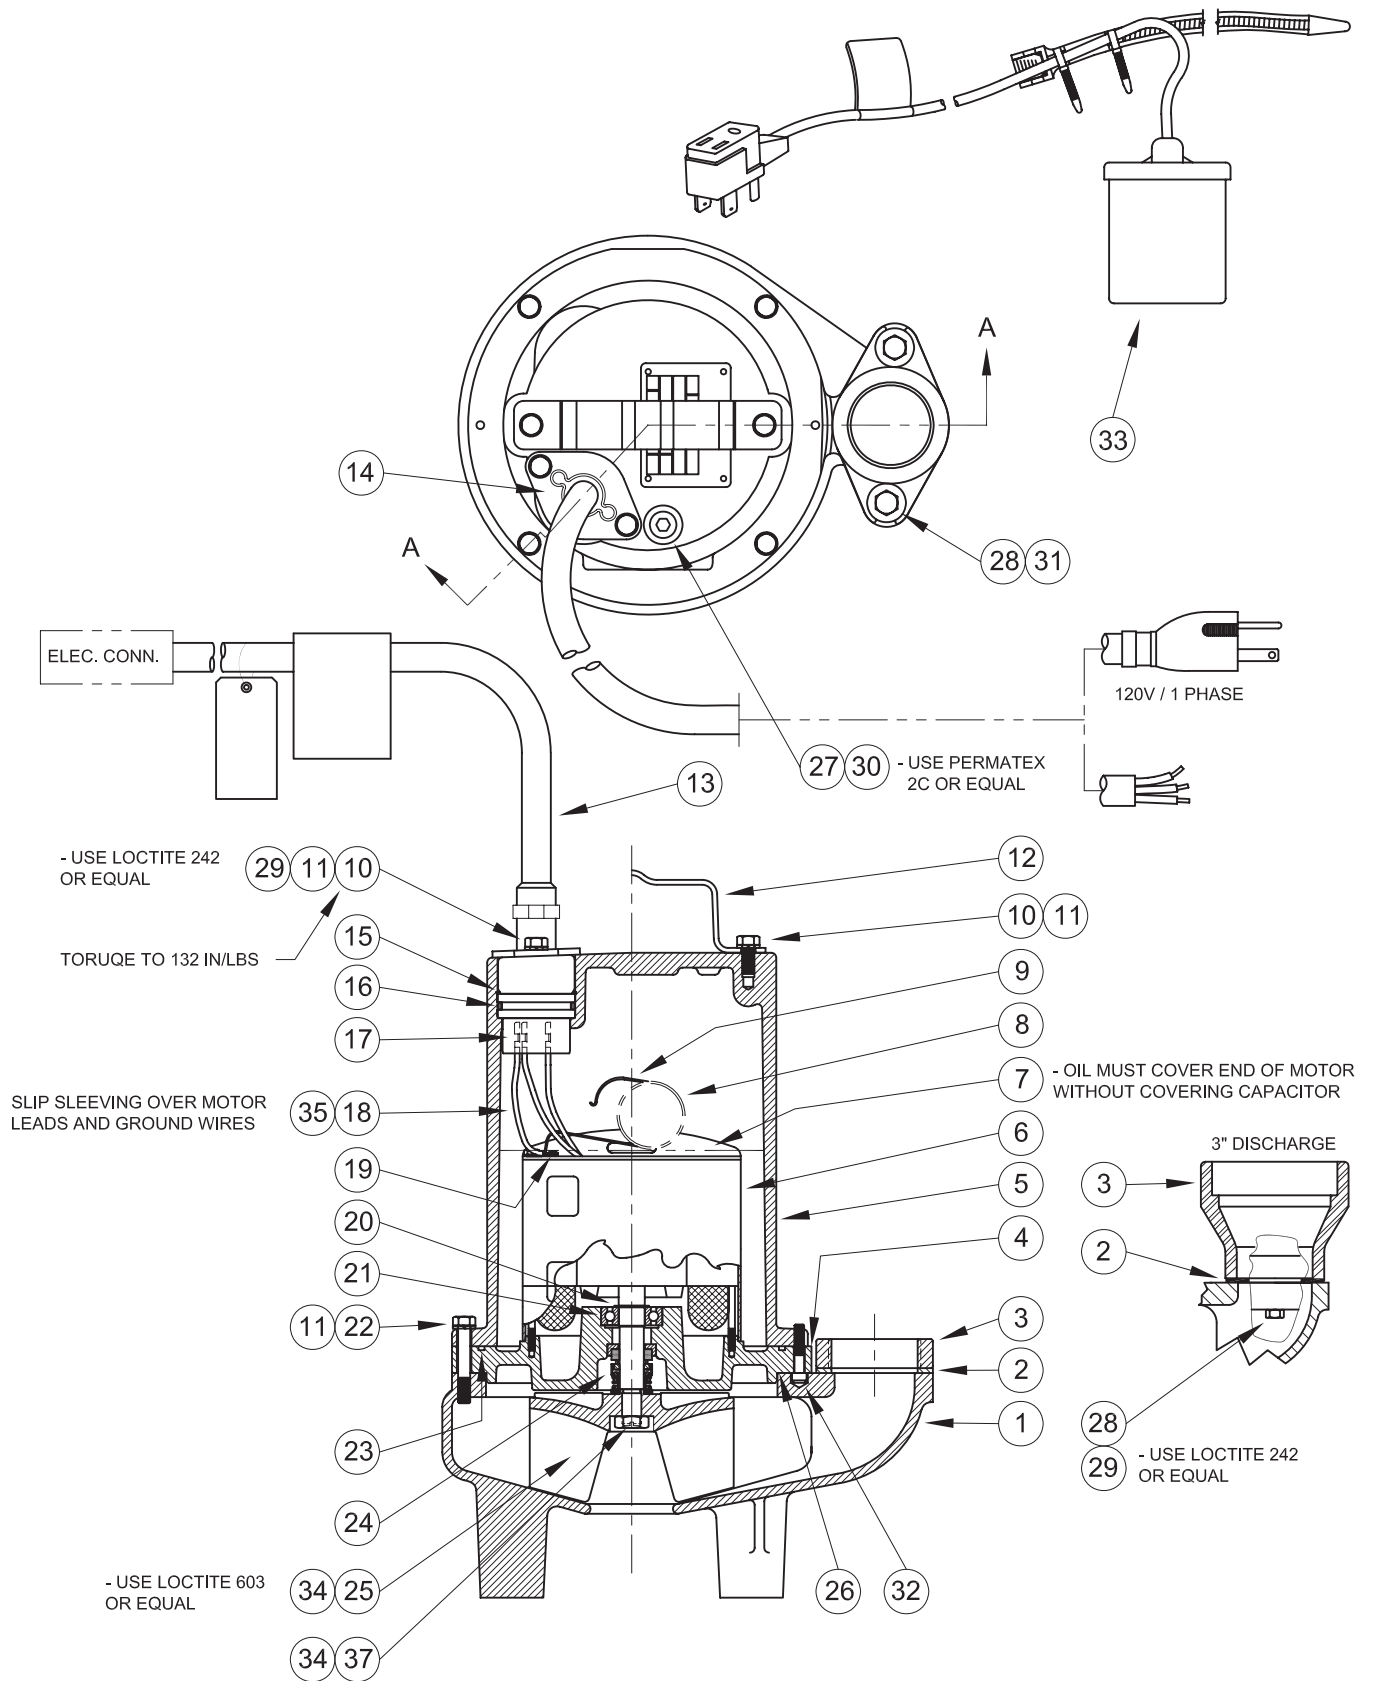

FIGURE 15
Motor Housing- Set unit upright and refill with new cooling oil as per Table 1 (see parts list for amount). Fill to just above motor as an air space must remain in the top of the motor housing to compensate for oil expansion (see Fig 15). Apply pipe thread compound to threads of pipe plug (27) then assemble to motor housing (5).